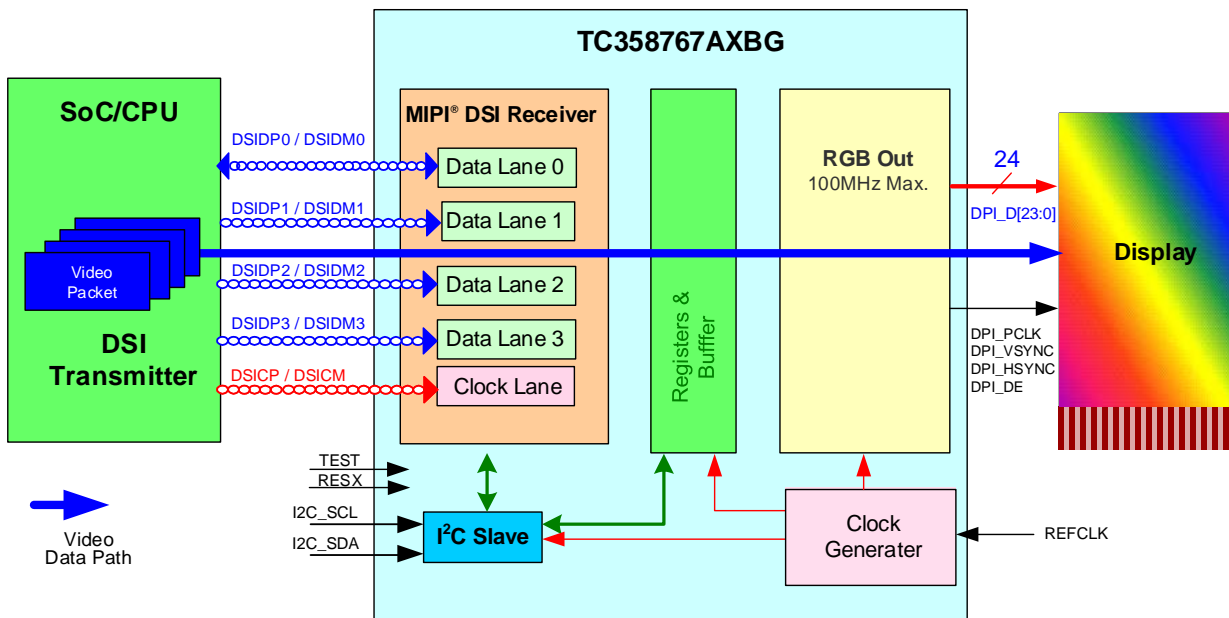

Figure 1.3 System Overview with TC358767AXBG in MODE_S2P Configuration
| Figure 1.3 System Overview with TC358767AXBG in MODE_S2P Configuration | 9 |
- **Mode_S2P:** A system configuration where TC358767AXBG may typically be used is shown in Figure 1.3. In this mode, DisplayPort™ output is not used and the chip rather behaves as a DSI to RGB convertor. In this system, TC358767AXBG could be connected to a single display. In this configuration, the TC358767AXBG can support displays with resolution up to WXGA (1280×800 or 1366×768). Max. output PCLK is 100MHz. Video stream source is from DSI Host.